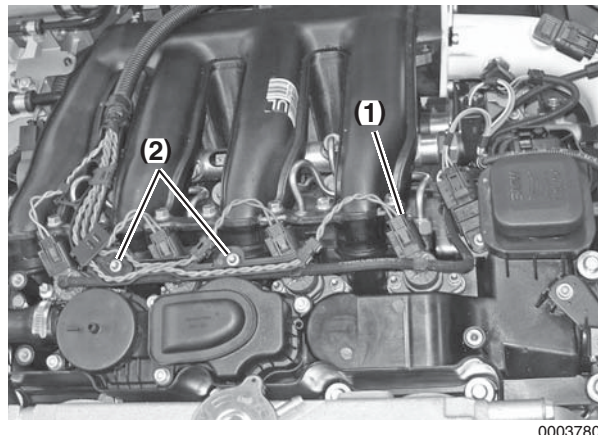

Figure 5-127
1. Remove injector harness connectors (**Figure 5-127, (1)**) from all fuel injectors.
2. Remove screws (**Figure 5-127, (2)**) and move injector harness out of the way.